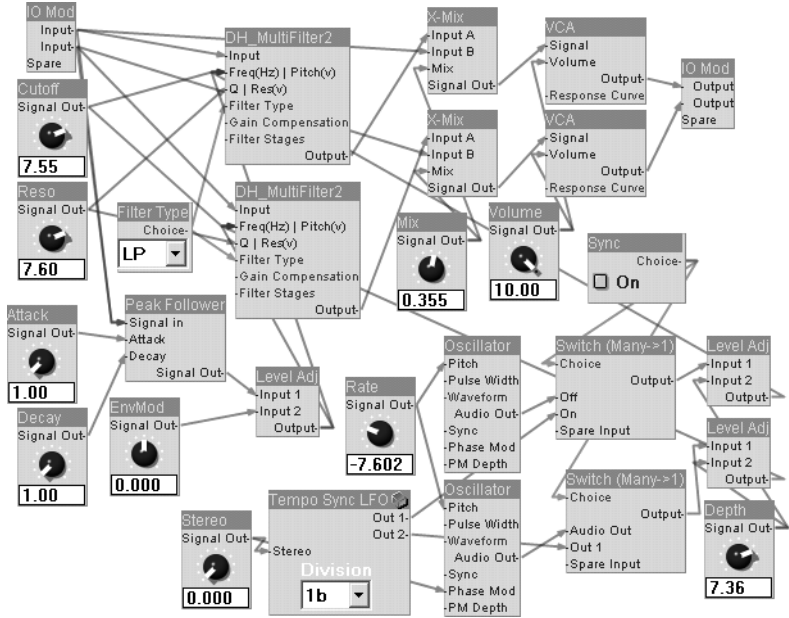

Figure 2.17: The whole kit and caboodle—an auto-filter with an LFO and envelope follower
- ❖ **Figure 2.17 maps out the final auto-filter structure with a switch sitting between the free-running oscillator and the tempo sync LFO.**